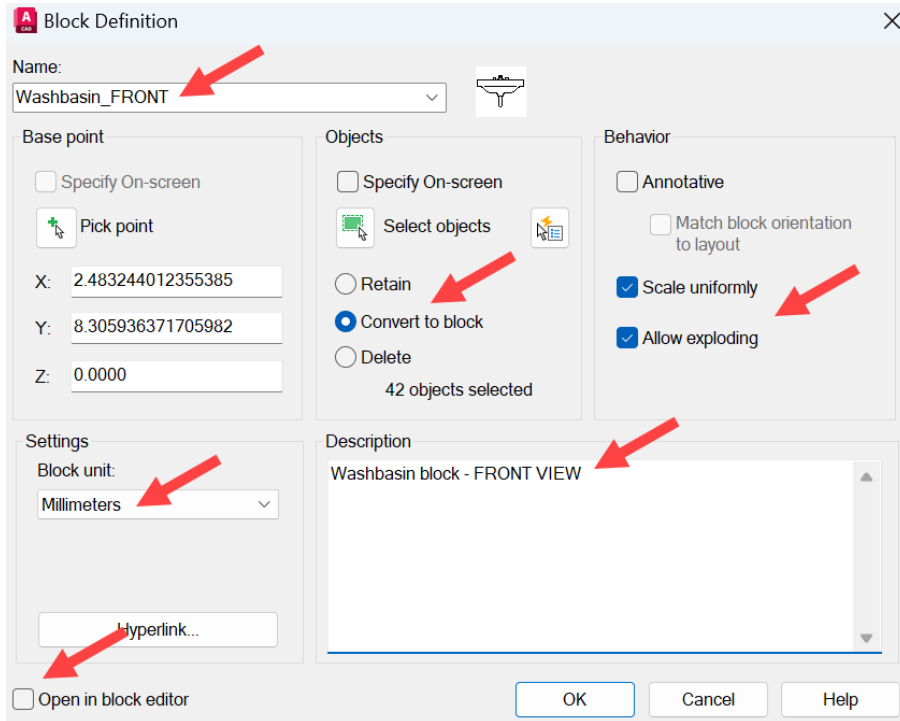

Figure 12.6: The Block Definition dialog box with all required settings
7. Refer to *Figure 12.6* and set all the necessary settings in the **Block Definition** dialog box as shown.
4. Check that all the other settings in the **Block Definition** dialog box match what is shown in *Figure 12.6* and click on **OK**.